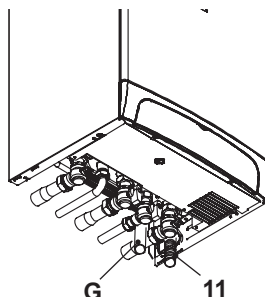

Fig. 6.4
- Connect the pipe G (Fig. 6.4) from the pressure relief valve to the safety dis-
- Fit the condensate drain 11 (Fig. 6.4) in the air brake connected to the drainage pipework. See also section "Condensate drain" to page 40.